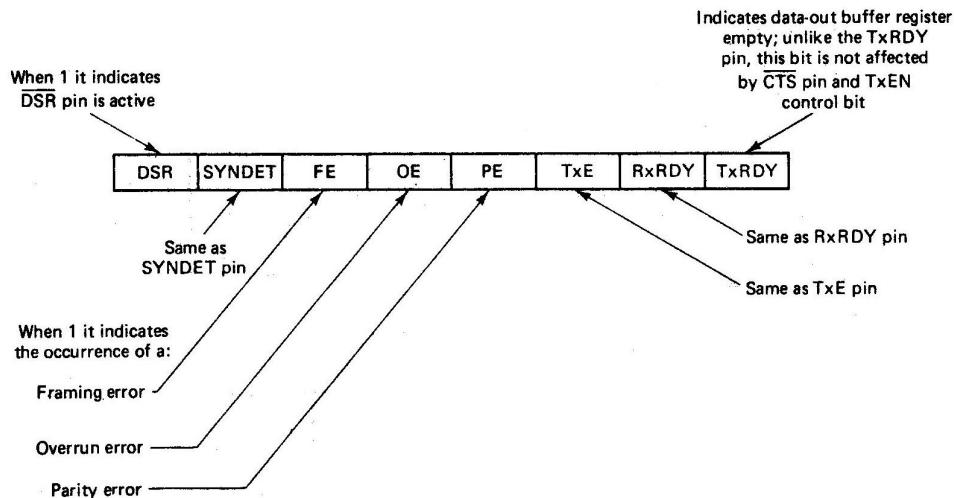

Figure 4.12: Format of the status register
would cause the same 8251A to be put in synchronous mode and to begin searching for two successive ASCII sync characters. As before, the characters are to consist of 7 data bits and an even parity bit, but there will, of course, be no stop bits. The format of the status register is given in Figure 4.12. Bits 1, 2, and 6 reflect the signals on the RxRDY, TxE, and SYNDET pins. TxRDY indicates that the data-out buffer is empty. Unlike the TxRDY pin, this bit is not affected by the CTS input pin or the TxEN control bit. RxRDY indicates that a character has been received and is ready to be input to the processor. Either the TxRDY and RxRDY bits can be used for programmed I/O or the signals on the corresponding pins can be connected to interrupt request lines to provide for interrupt I/O. The TxRDY bit is automatically cleared when a character is made available for transmitting and the RxRDY bit is automatically cleared when the character that set it is input by the processor. Bit 2 indicates that the transmitter shift register is waiting to be sent a character from the data-out buffer register. During synchronous transmissions, while this bit is set, the transmitter will take its data from the sync character registers until data are put in the data-out buffer register. Bits 3, 4, and 5 indicate parity, overrun, and framing errors, respectively. When an error is detected, the bit having the corresponding error type will be set to 1. If the complement of the DSR pin is connected to the Data Set Ready (CC) line, then bit 7 reflects the state of the modem and is 1 when the modem is turned on and is in its data mode.